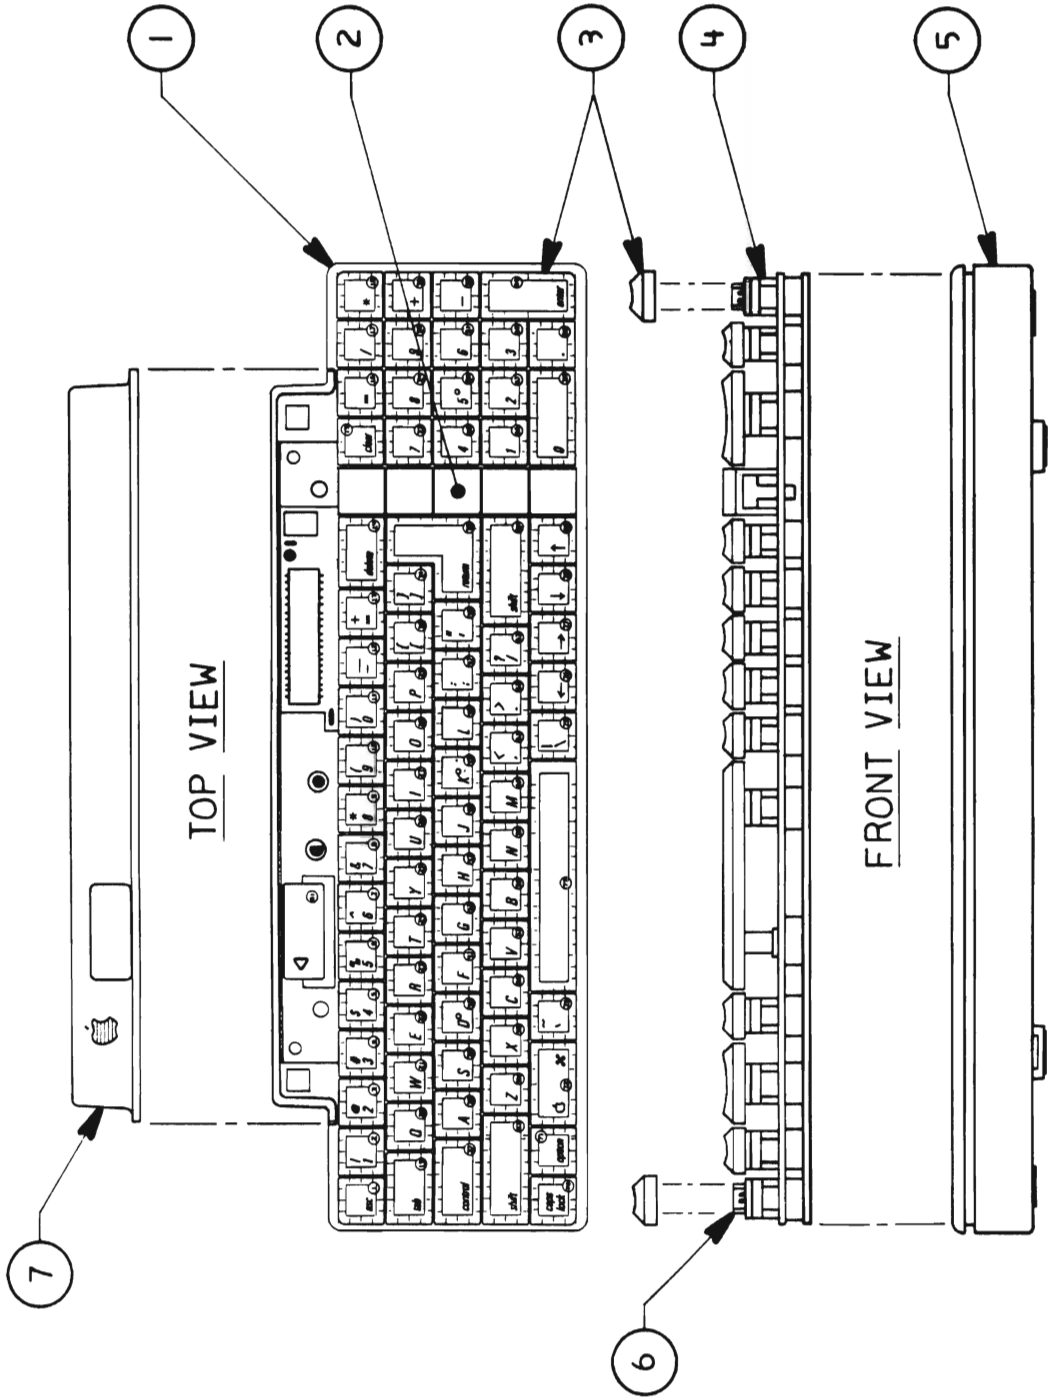

FIGURE 3
- IPL.7 Keyboard (Figure 3)
□ APPLE IIgs – KEYBOARD (Figure 3)